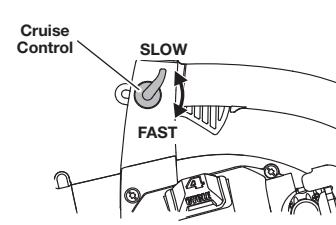

Fig. 12
- Move the variable speed cruise control toward the **FAST** position to incrementally increase or maintain the unit's engine speed (Fig. 12). When the variable speed cruise control is pressed, the trigger will recede into the handle.
- To decrease engine speed, move the variable speed cruise control to the **SLOW** position and the trigger will return to idle (Fig. 12).